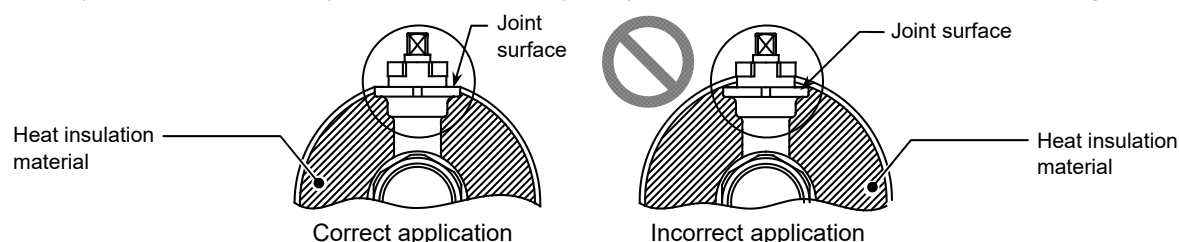

Figure 8. Heat insulation
Do not apply heat insulation to the joint surface. Correctly apply heat insulation to the valve as shown in Fig. 8.
- The actuator can be horizontally rotated every 90 degrees to fit into the valve mounting position (4 mounting positions). Make sure the positions of the actuator and the valve as follows, referring to Fig. 8:
(Align the hole on the side of the stem with the tip at the joint surface as 'a' in Fig. 8 shows.)